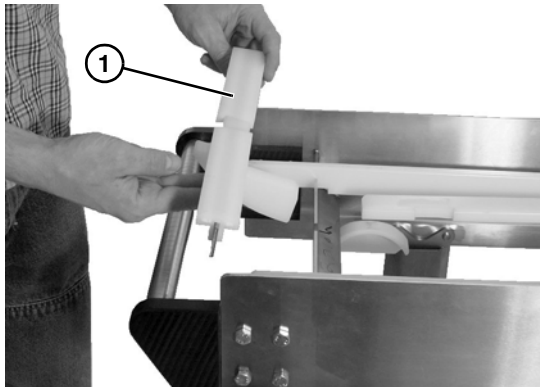

Figure 41
2. Remove the nose bar idler bar with wear strips and idler shoe attached (**Figure 41, item 1**).